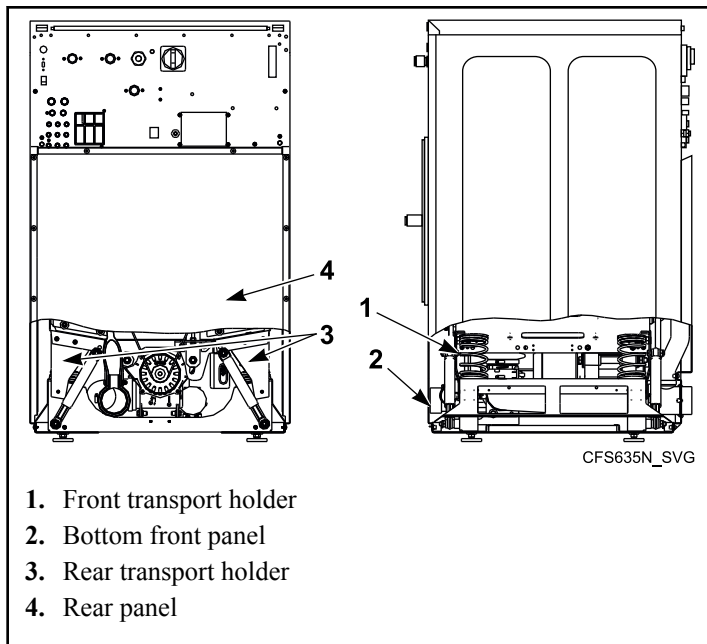

Figure 8
1. Remove bottom front and rear panel, refer to *Figure 8*.